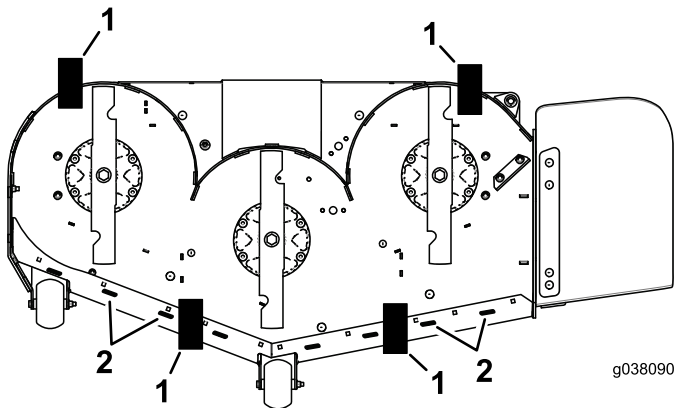

**Figure 84**
7. Check the front-to-rear blade level (Figure 84). Ensure the front blade tip is lower than the rear blade tip as shown in the block height and rake table. If it needs adjustment, continue with this procedure.